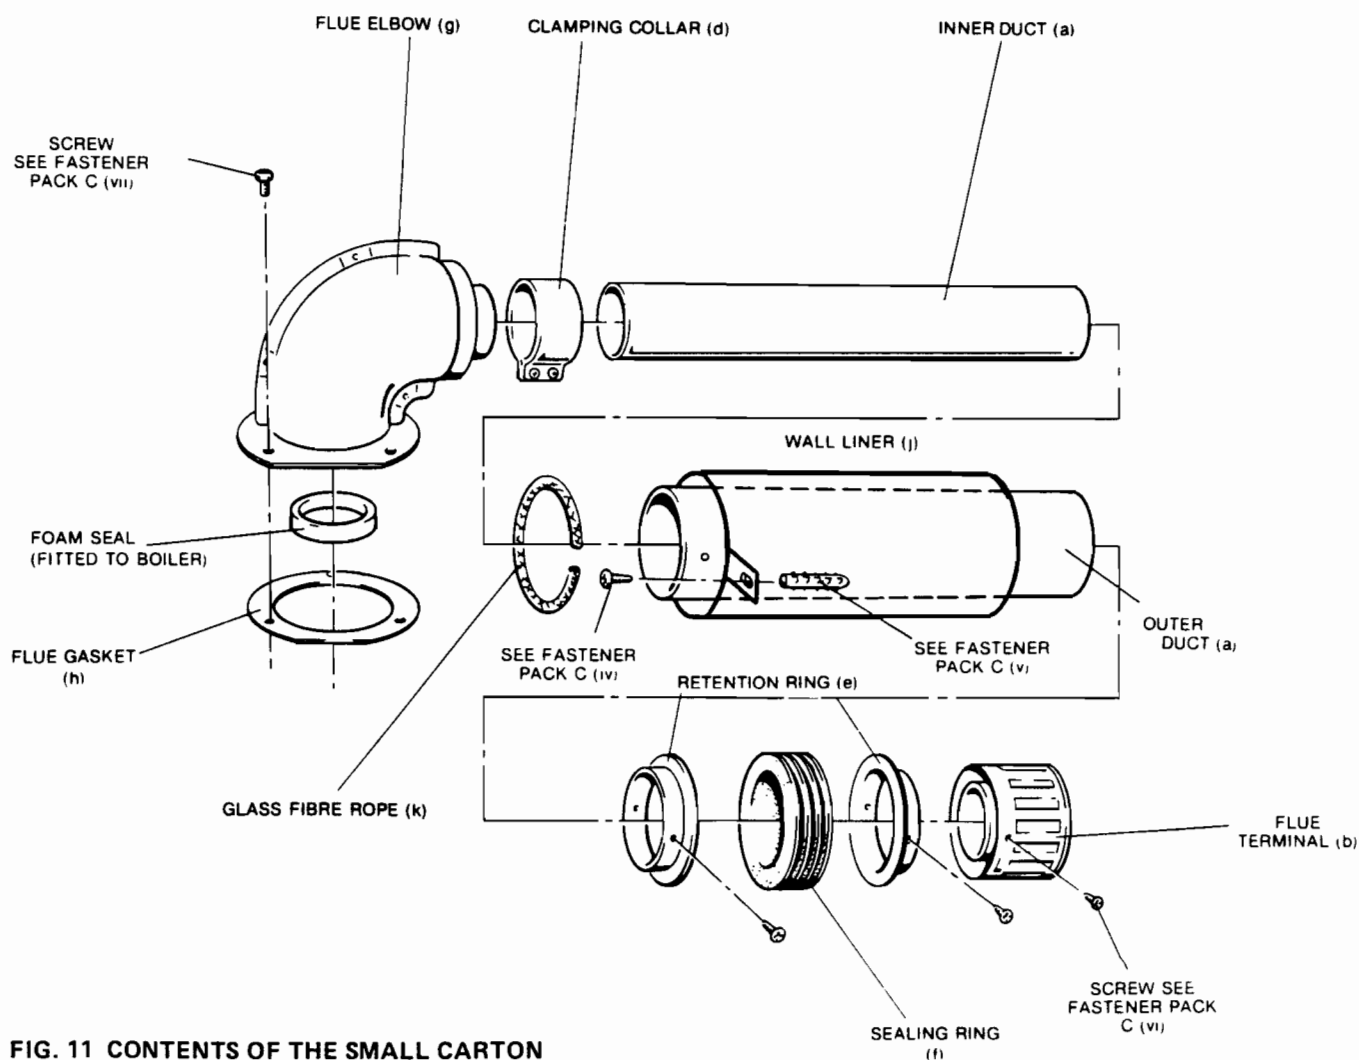

**FIG. 11 CONTENTS OF THE SMALL CARTON
3. AIR/FLUE ASSEMBLY (see Fig. 11)